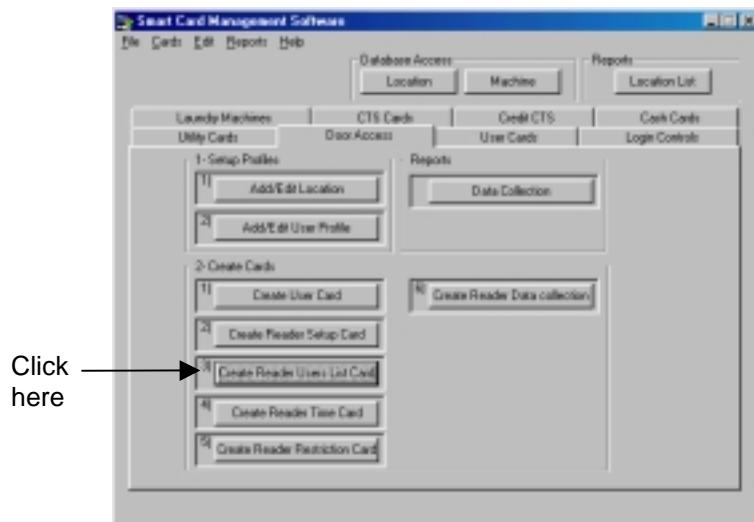

Figure 11.42 To Create a Reader User List Card
1. In the Door Access Manager click the Create Reader User List Card button (Figure 11.42).